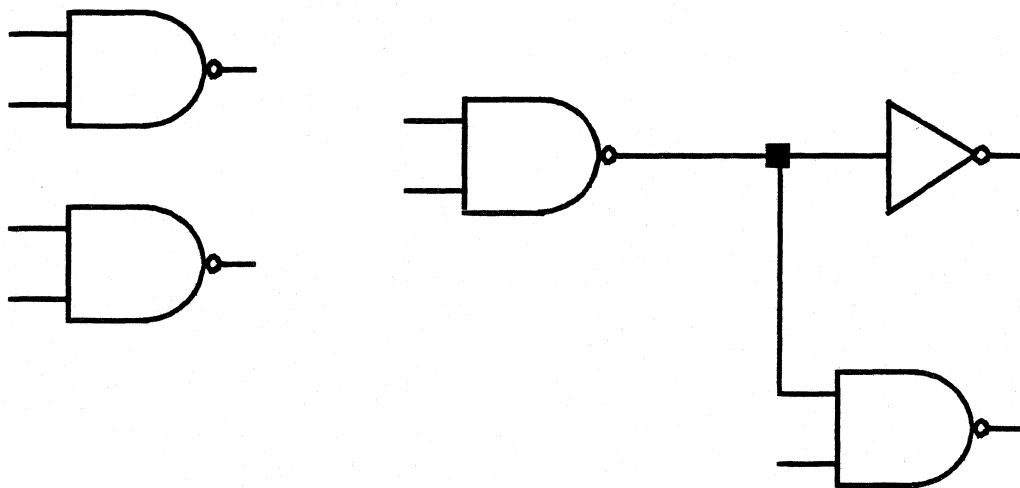

Figure 2.15
- 4) The system draws a path between the connection points, and marks junctions with solder dots (figure 2.15).